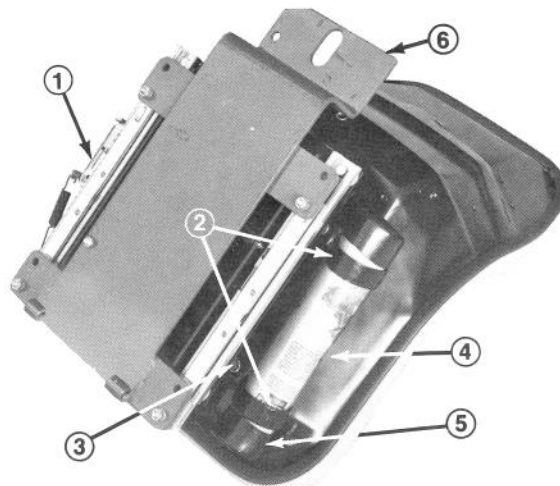

Figure 11
6. Assemble seat suspension assembly to four capscrews on seat bottom and install a lockwasher and flatwasher at all four locations. Install an R-clamp over right front and right rear capscrews of seat and install and tighten nuts to secure all four locations (Fig. 11). Install manual tube into R-clamps, insert manual into tube and place cap over tube end (Fig. 11).
7. Mount seat support over four threaded studs at the bottom of seat suspension assembly and secure in place with lockwashers and nuts (Fig. 11).